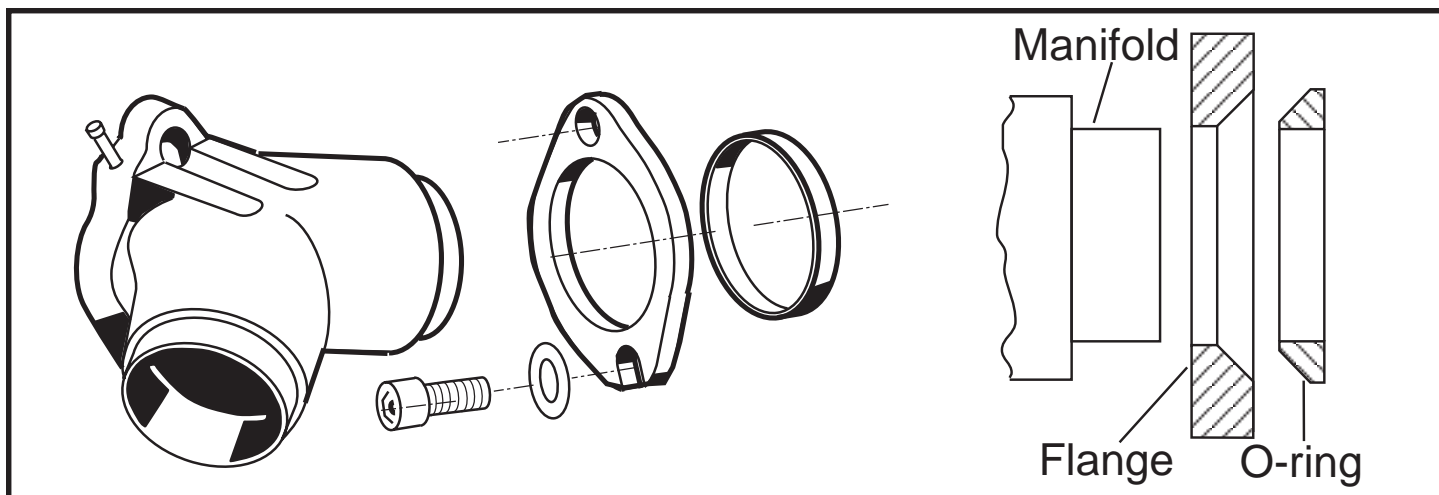

Figure 8
5. Install intake manifold, mounting flanges and o-ring seals. Be sure o-rings and flanges are assembled in correct sequence. Tapered side of o-ring must fit into tapered side of flange. **See Figure 8.** Use flange marked "F" on front head and flange marked "R" on rear. Slotted end of mounting flange goes toward lower manifold mounting hole. Flat washer provided is used on slotted end of flange. Do not tighten mounting flange screws.